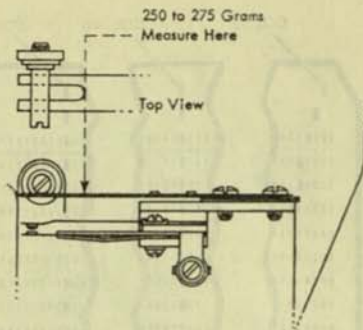

Figure 6. Escapement Adjustment
4. Form the auxiliary spring near its mounting bracket to exert 250 to 275 grams pressure against its stop stud when measured at the point shown in Figure 6. An approximate adjustment can be obtained by removing the stop stud